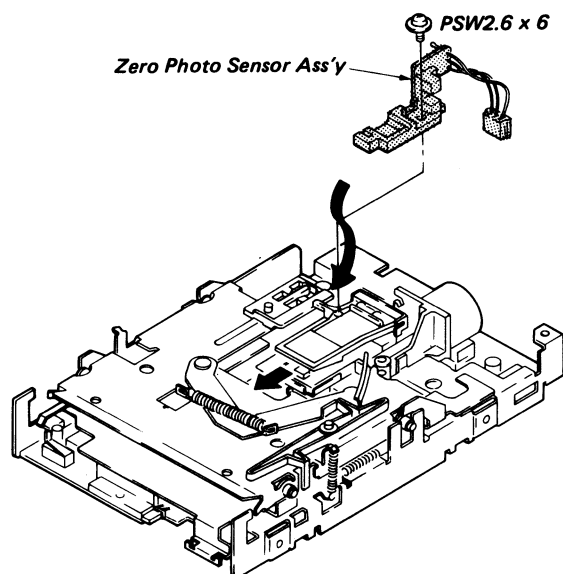

Fig. 4-5 Zero Photo Sensor Ass'y Replacement
- d. Remove the screw (PSW2.6x6) securing the Zero Photo Sensor Ass'y. Pull it out carefully toward the rear of drive. Don't apply any excessive force to the head carriage ass'y and flexible boards, during the removal. (Refer to Fig. 4-5)
- a. Be careful to put the Zero Photo Sensor Ass'y underneath the arm of the head carriage ass'y as shown in Fig. 4-5, and install the Zero Photo Sensor Ass'y.